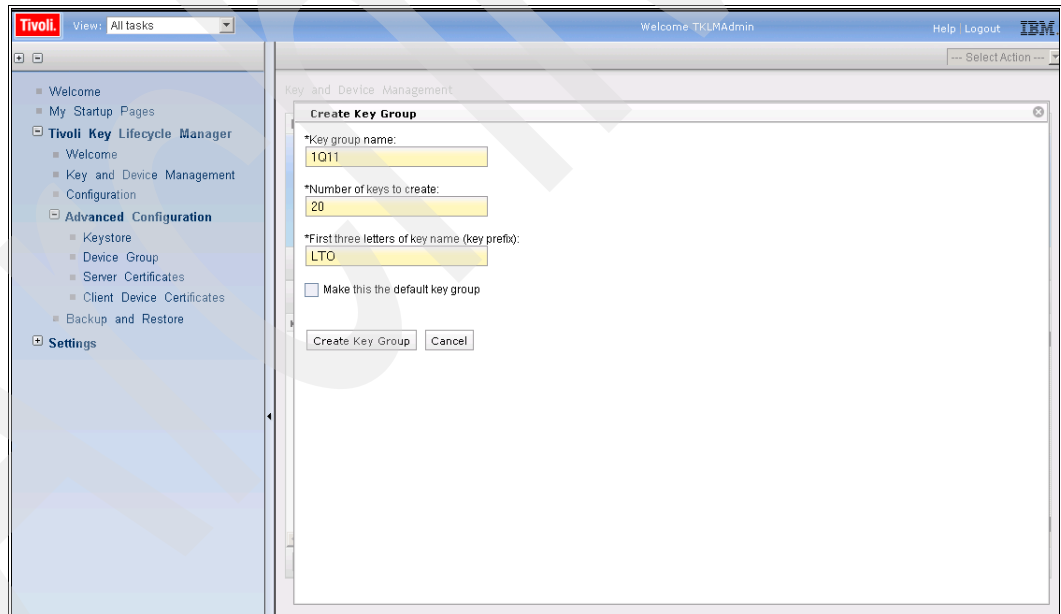

Figure 9-42 Create key group
4. Make the appropriate entries in the **Key group name**, **Number of keys to create**, and **Key prefix** fields, then click **Create Key Group**. Figure 9-42 is an example of a completed panel.